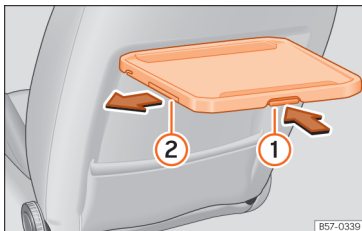

Fig. 165 Left-hand front seat: folding table with drinks holder.
- Press the unlocking lever under the table »» Fig. 165 ① and keep it that way.